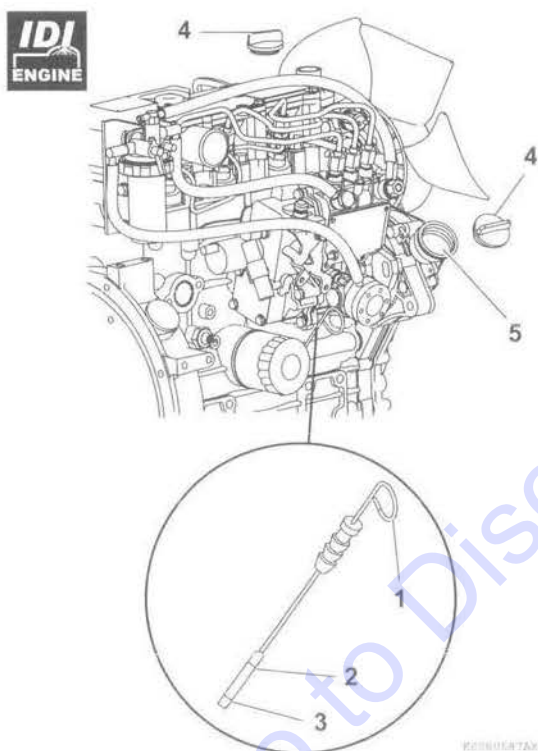

Figure 10
8. Add engine oil to engine oil filler port (5, **Figure 10**) as needed until the level is between the upper (2, **Figure 10**) and lower lines (3, **Figure 10**) shown on the dipstick (1, **Figure 10**).
9. Reinstall the oil filler cap (4, **Figure 10**). If any engine oil is spilled, wipe it away with a clean cloth.